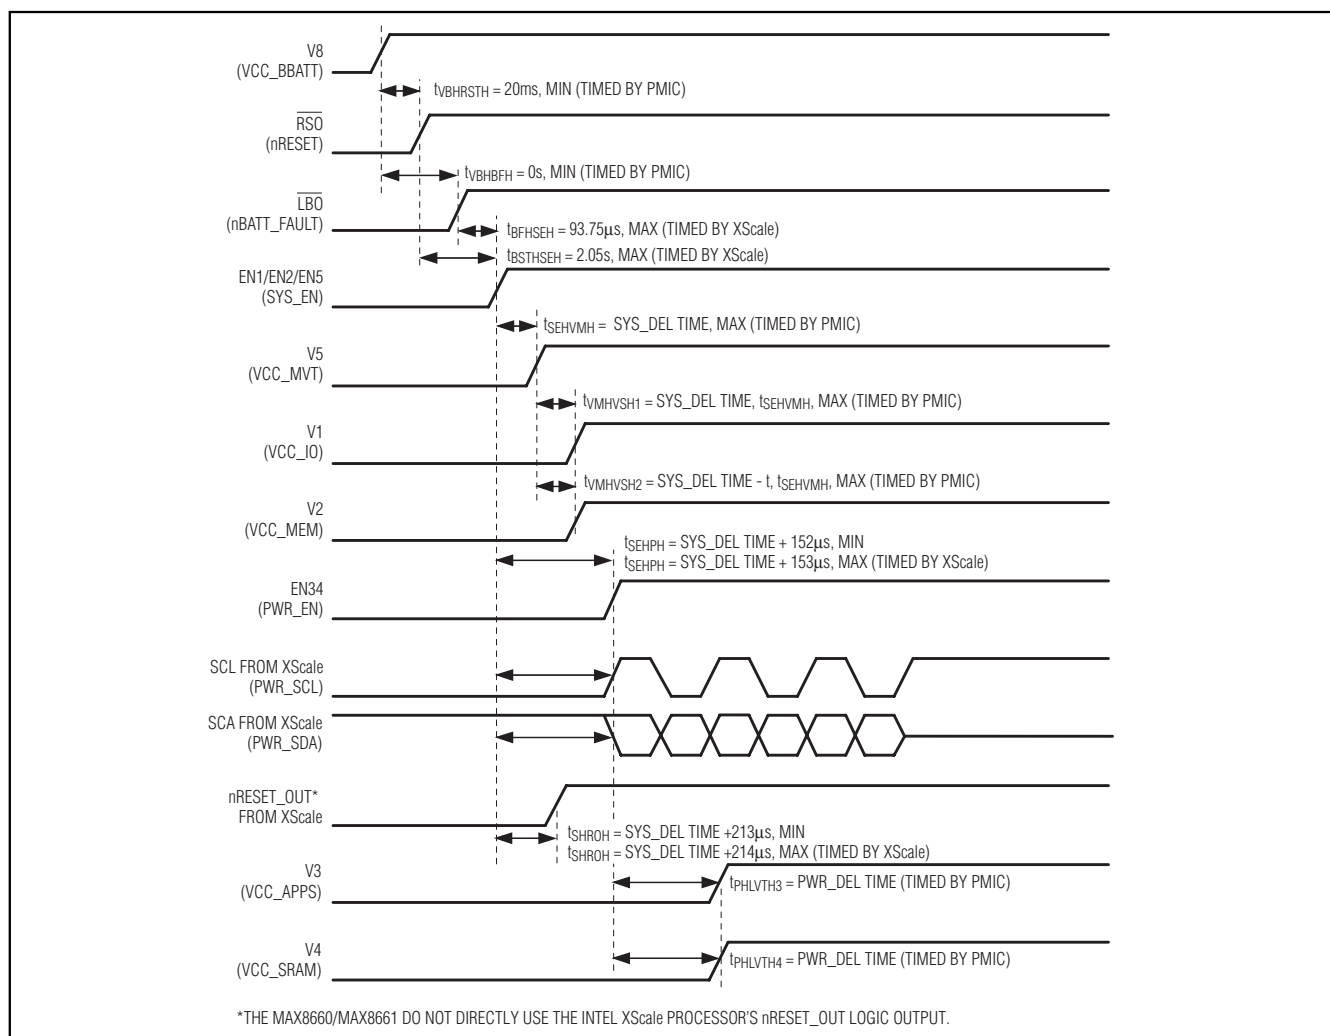

Figure 6. Power-Up Timing
Figure 6 shows the power-up sequence for the Intel XScale family of processors. In general, the supplies should power up in the following order:
- The PCFR register contains timers for the SYS_DEL and PWR_DEL timing parameters as shown in Figure 6. Each timer defaults to 125ms. When using the MAX8660/MAX8661, these timers may be shortened to 2ms to speed up the overall system wake-up delay.